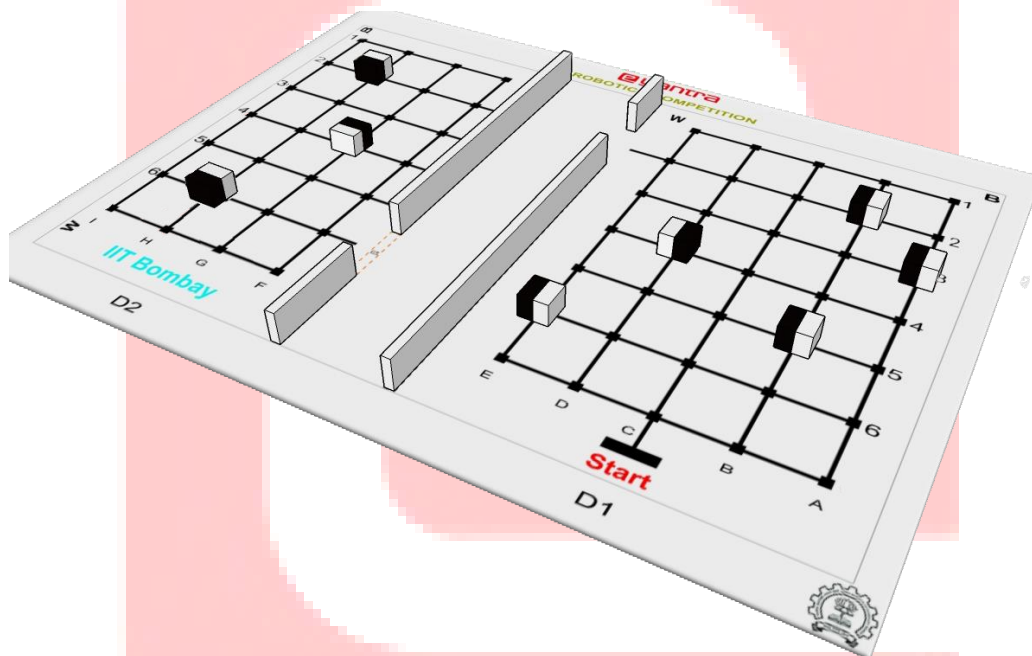

Figure 8: Arena after Placement of Walls
- After placing all the units for Wall 2, the final arena will look like Figure 8.
Note: The arena shown in Figure 8 is specific to the example placement table and example entry gate considered. During the competition, the table and entry gate will be different and hence, the placement of blocks and wall sections will vary accordingly.